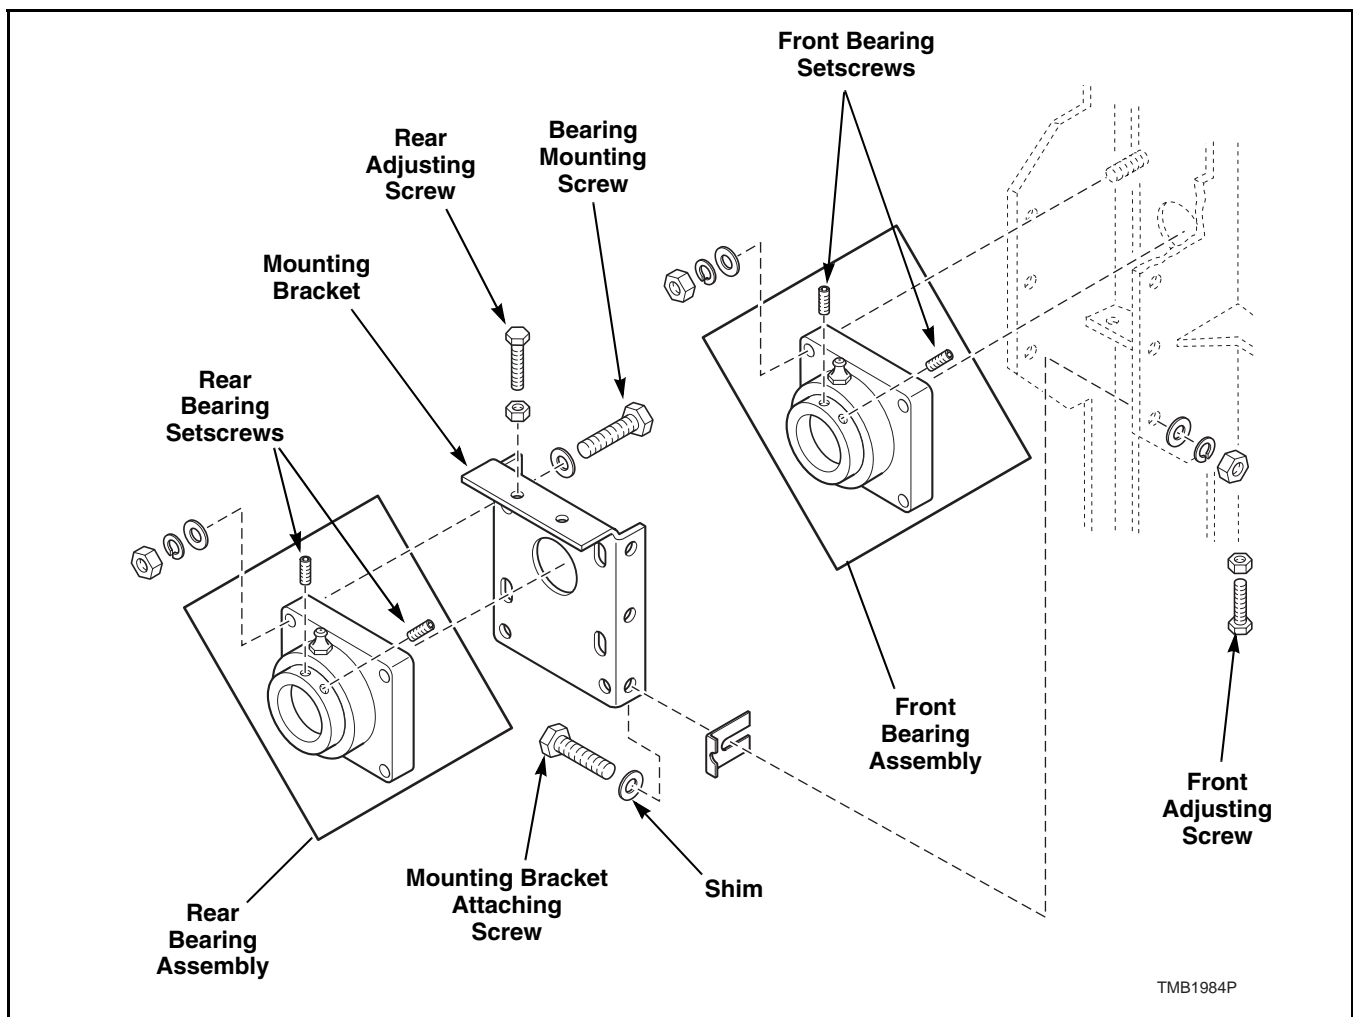

Figure 16
- k. Loosen setscrews on trunnion bearings. Refer to *Figure 16*.
Refer to *Figure 16*.